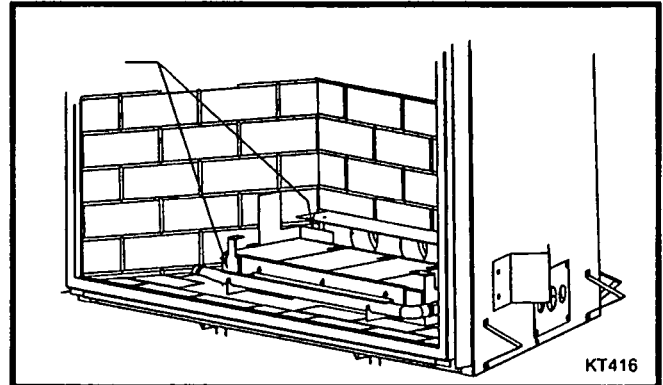

Fig. 53 Use 3/8" socket to remove hex nuts holding left burner leg.
4. Remove two (2) hex nuts holding the left burner leg. Remove burner leg. (Fig. 53)